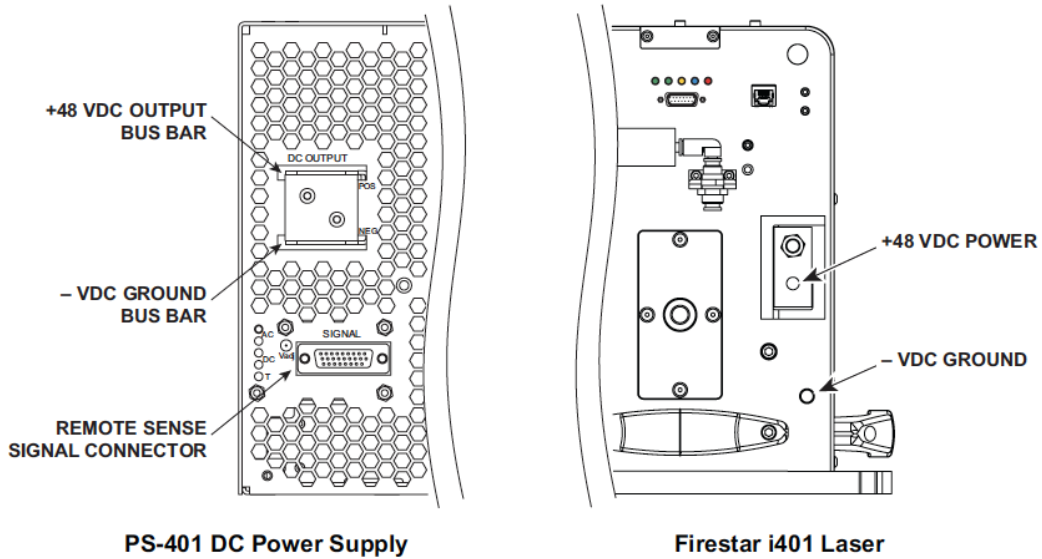
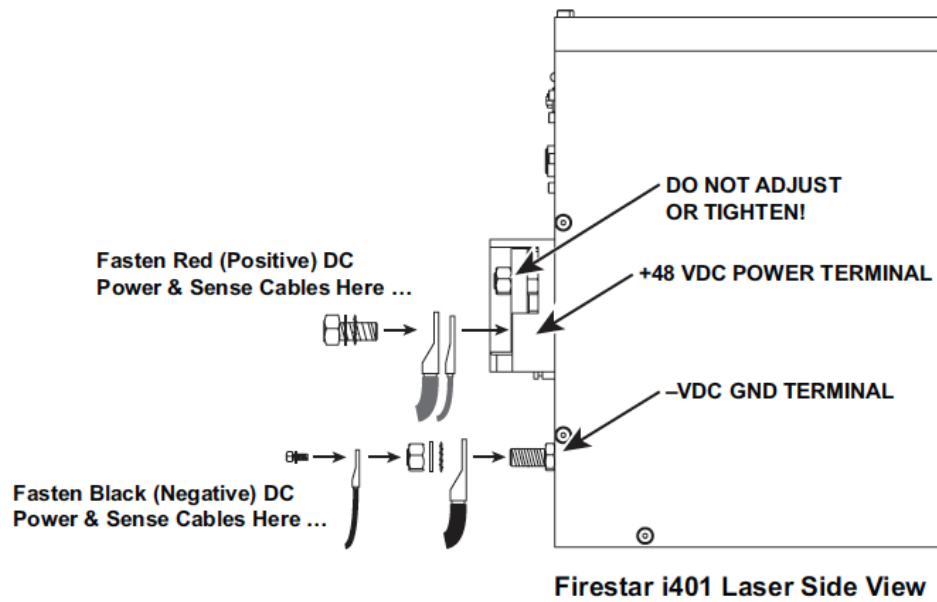

Figure 1-10 DC power connection locations – rear view
Figure 1-11 DC power connection locations – side view
To connect DC power and the DC voltage sense cables between your i401 laser and PS-401 DC power supply, refer to Figure 1-10 and Figure 1-11 and perform the following steps:
- 5 Slide the black (negative) DC power cable over the -VDC GND terminal followed by the M10 external star washer, flat washer, and hex nut (see Figure 1-11).
- 8 Fasten the red (positive) DC power cable and red DC sense lead to the +48V POWER terminal on the rear of the laser using the M10 bolt, flat washer, and star washer as shown in Figure 1-11. Carefully tighten the M10 bolt to a torque of 7.4 N m (65 in lb.) maximum.
- 2 Attach the black (negative) DC power cable to the -VDC Ground Bus Bar on the PS- 401 power supply using M6 (or 1/4 inch) fasteners (Figure 1-10).